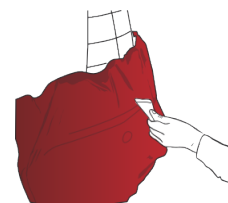

Figure 14
- › Apply the film over the whole surface using a felt-covered, plastic squeegee, and carefully wipe over the convex area (FIG. 14) to eliminate any tensions and folds.